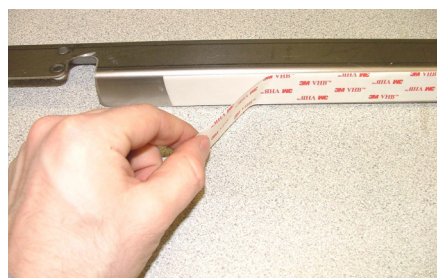

Figure 1-14. Remove the Protective Coating
Step 2. Remove the protective coating from the back bracket, Panel 6 bracket, and Panel 5 bracket (Figure 1-14).